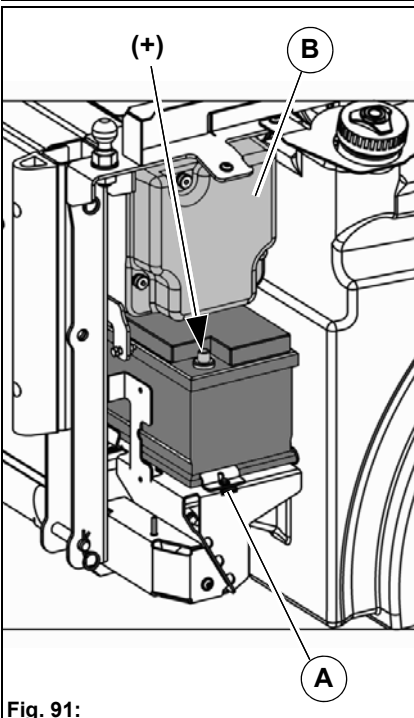

Fig. 91:
3. Remove the right side cover and loosen the battery holder **Fig. 91-A**.